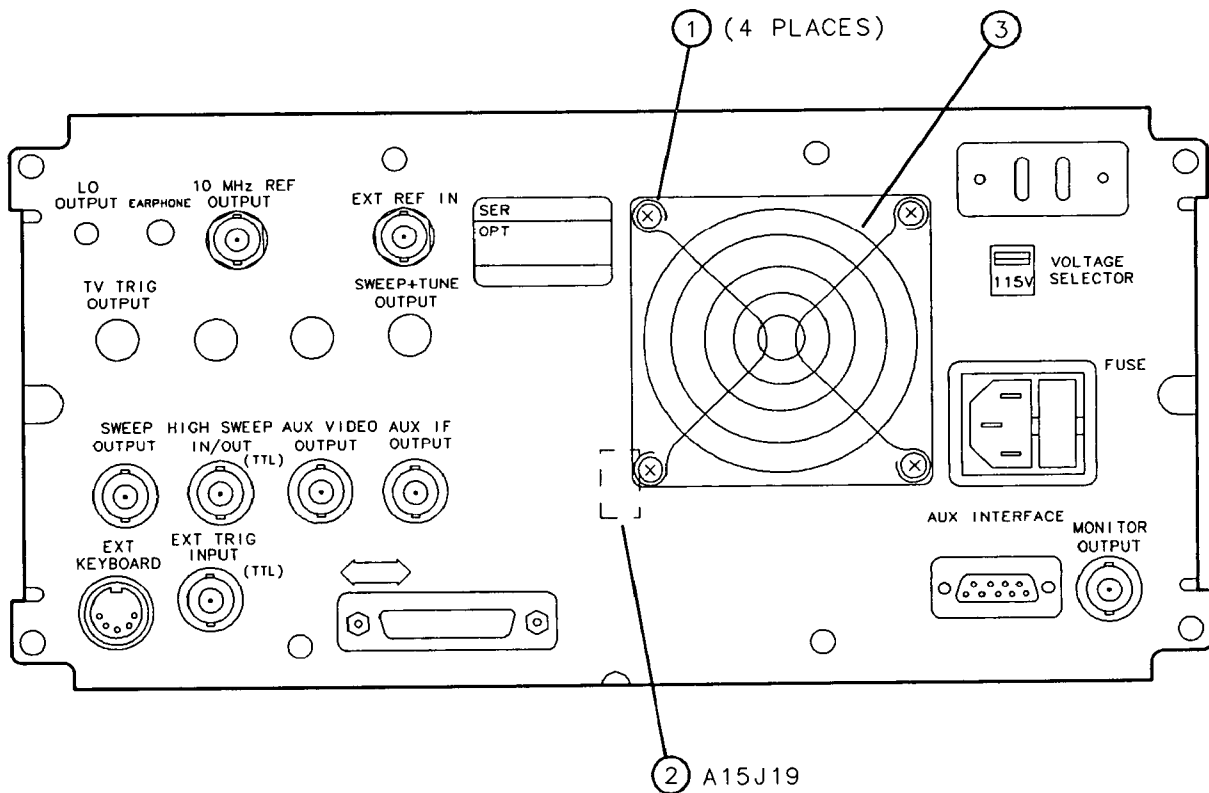

Figure 3-14. B1 Fan Replacement
3. Hold the B1 Fan Assembly in position and loosen the four screws (1) that secure the fan assembly to the rear-frame assembly. See Figure 3-14.
4. Pull the fan 2 inches away from the instrument, reach into the opening in the rear frame, and disconnect the fan wiring from A15J19 (2).
5. Remove the four screws, washers, and spacers from the fan (1).
6. Remove the fan grill (3).
1. Position the fan grill on the B1 Fan **(3)**. The fan label must be visible through the fan grill to make sure that the fan provides the correct airflow. See Figure 3-14.